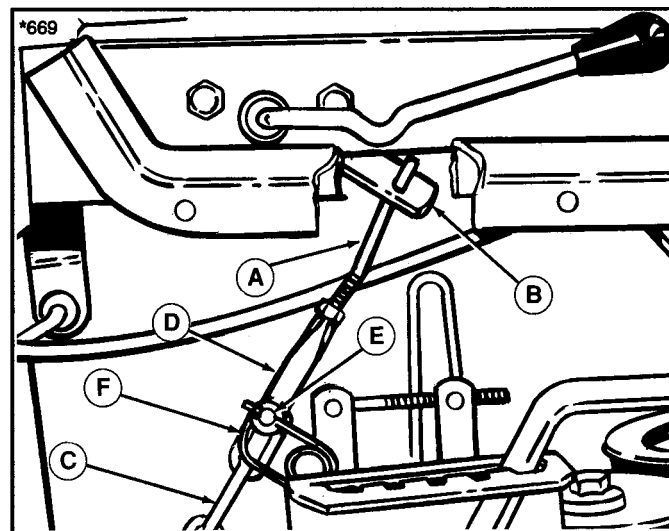

Figure 3. Lift Assembly
4. Insert the link (A, figure 3) into lift arm (B) then pivot back and down. Secure chain (C) to clevis (D) with pin (E) and clip (F). Use on three links of chain.